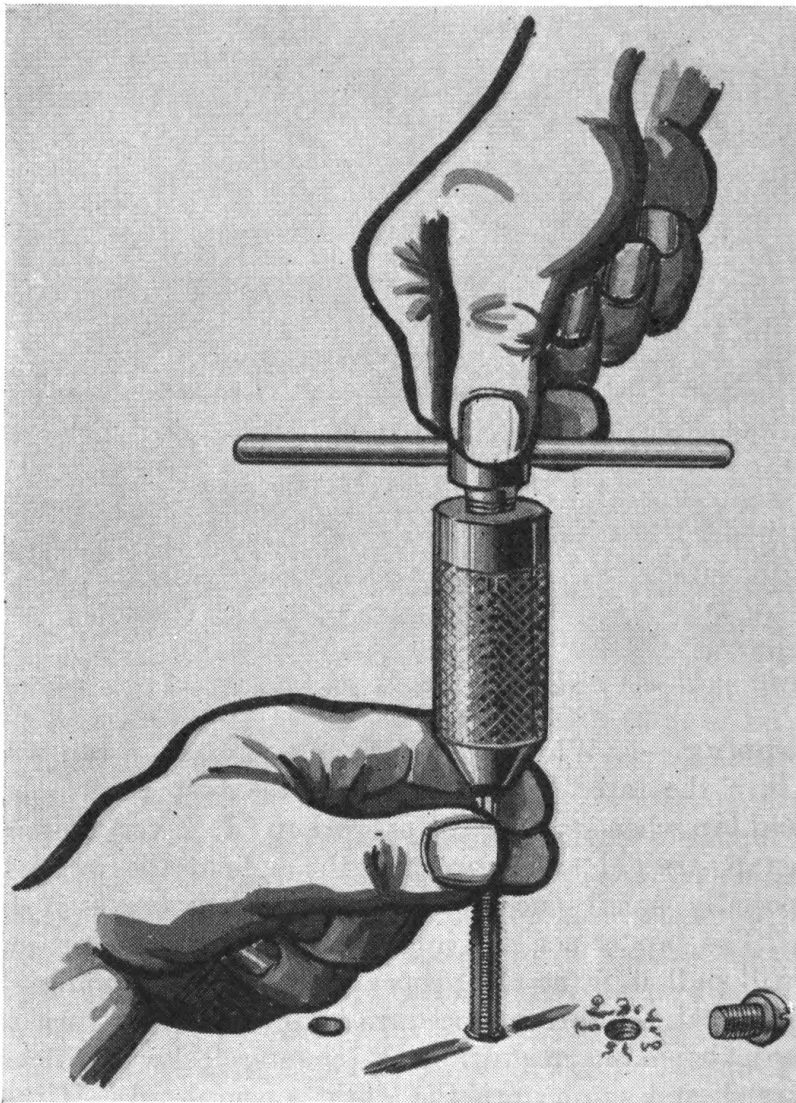
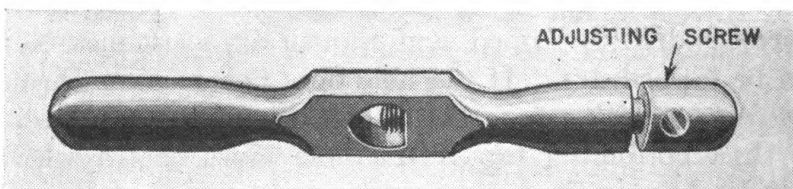

FIGURE 59.—Correct way to start tapping operation.
FIGURE 60.—Adjustable double end tap wrench.
18. Tapping.—*a.* When cutting female threads, a tap wrench is used to turn the tap. Figure 59 shows the best way to hold the wrench and tap when starting the operation. It is very important to start the tap straight and keep it so throughout the work, because taps, especially small ones, will almost surely break if bent or strained. The tap is not fed into the hole with any pressure; its threads will pull it in at the proper rate. When tapping steel, or any tough metal, the safest procedure is to take a half turn forward (clockwise), then a quarter turn back (counterclockwise), then a half turn forward, and so on until the work is completed. If the metal is soft, as cast iron or brass, the back turns are not necessary. When tapping steel or bronze, the tap should be well lubricated with lard oil; cast iron is drilled, tapped, and reamed dry; soft metals, such as brass, can be tapped dry. If the hole does not go clear through the work, *tap it first with a taper tap*, then use a plug tap, and finally follow with a bottoming tap if the hole must be threaded to its extreme end. Larger-sized taps are turned with an adjustable tap wrench of the type shown in figure 60. Some small taps up to $\frac{3}{8}$ of an inch have large shanks which should not be turned beyond the surface of the work being tapped, as these shanks exert a reaming action which will cut out the threads.